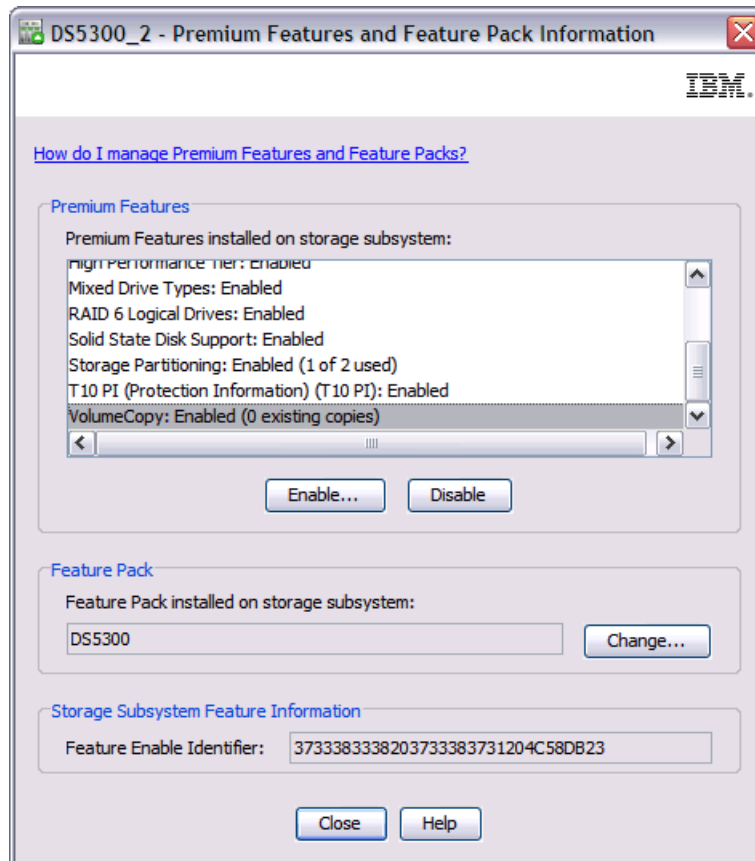

Figure 5-38 Disabling premium feature
1. Select **Storage Subsystem** → **Premium Features** in the Subsystem Management window. Choose the feature you want to disable from the list as shown in Figure 5-38 and click on **Disable**.